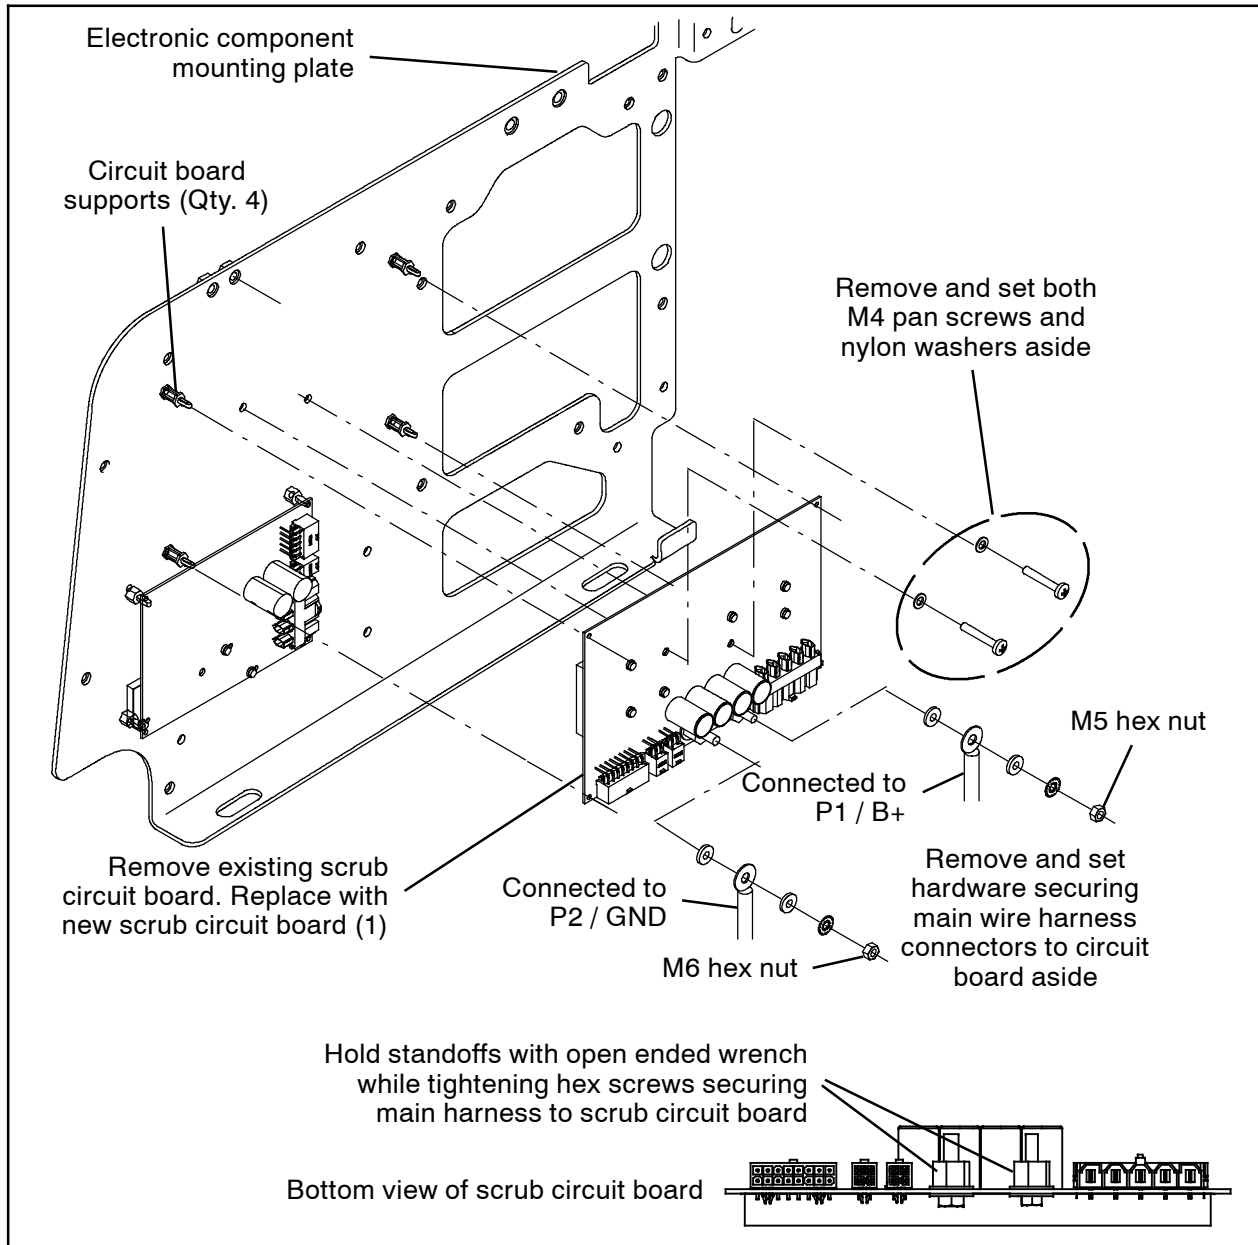

FIG. 3
3. Disconnect the main wire harness from the existing scrub circuit board. Set the P2 / GND and P1 / B+ mounting hardware aside. (Fig. 3)
4. Remove the two M4 pan screws and nylon washers securing the scrub circuit board to the electronic component mounting plate. Set the M4 pan screws and nylon washers aside. (Fig. 3)
5. Remove the scrub circuit board from the four circuit board supports on the electronic component mounting plate. Discard the scrub circuit board. (Fig. 3)
6. Place the new scrub circuit board (1) onto the circuit board supports and use the two M4 pan screws and nylon washers to secure the scrub circuit board to the electronic component mounting plate. (Fig. 3).
7. Reconnect the main wire harness to the scrub circuit board (1). Use an open ended wrench to hold the scrub circuit board standoffs while tightening the M5 and M6 hex nuts. Tighten the M5 hex nut to 36 in lbs (4.0 Nm) and the M6 hex nut to 52 in lbs (5.9 Nm). **Do Not** over tighten either hex nut. (Fig. 3)